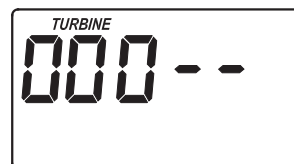

FIG. 25
1. Press and hold the SELECT button until the screen in Figure 25 is displayed.